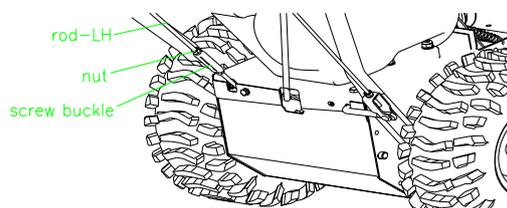

FIG 3
**2.3.1** Thread a flange nut with the flange down onto the traction rod attached to the left side of the handle. Position the left side of the handle against the side of the snow thrower and insert the end of the traction rod through the lower traction rod loop. (FIG 3)